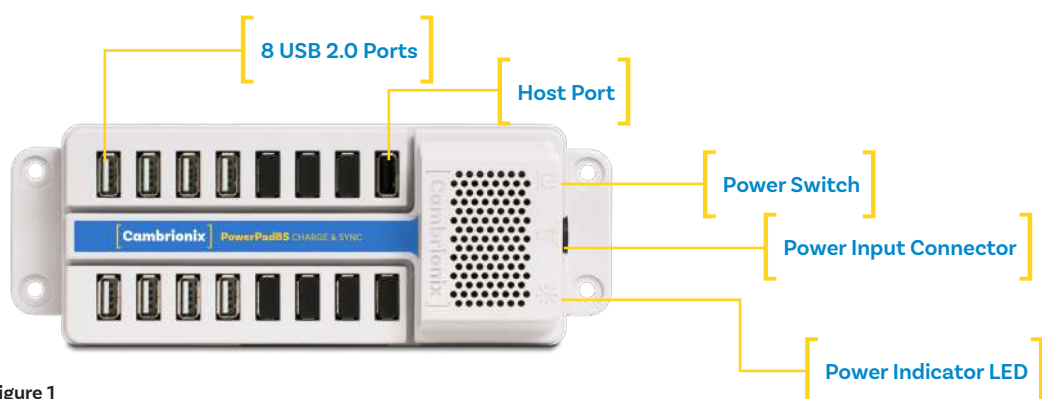

Figure 1
- The PowerPad8S unit (see Figure 1 below)